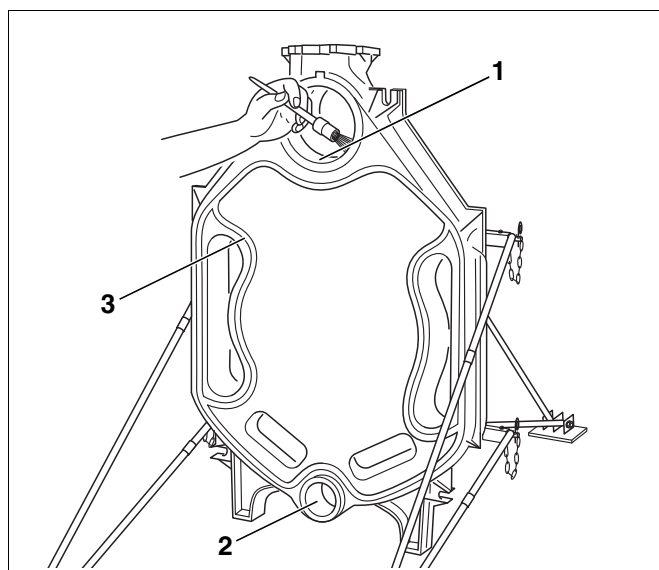

Fig. 13 Prepare packing grooves and hubs
- Clean the packing grooves where required using a wire brush and cloth (Fig. 13, [3]).
- Clean the hub sealing faces (Fig. 13, [1] and [2]) with a rag soaked in white spirit.